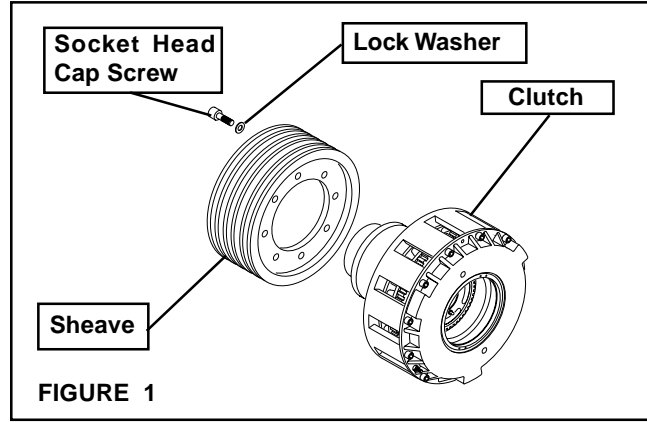

FIGURE 1
1. Apply a drop of Loctite® 242 to the threads of the eight 0.500-13 x 1.500" customer supplied socket head cap screws and lock washers; then, secure the sheave to the clutch (See Figure 1).